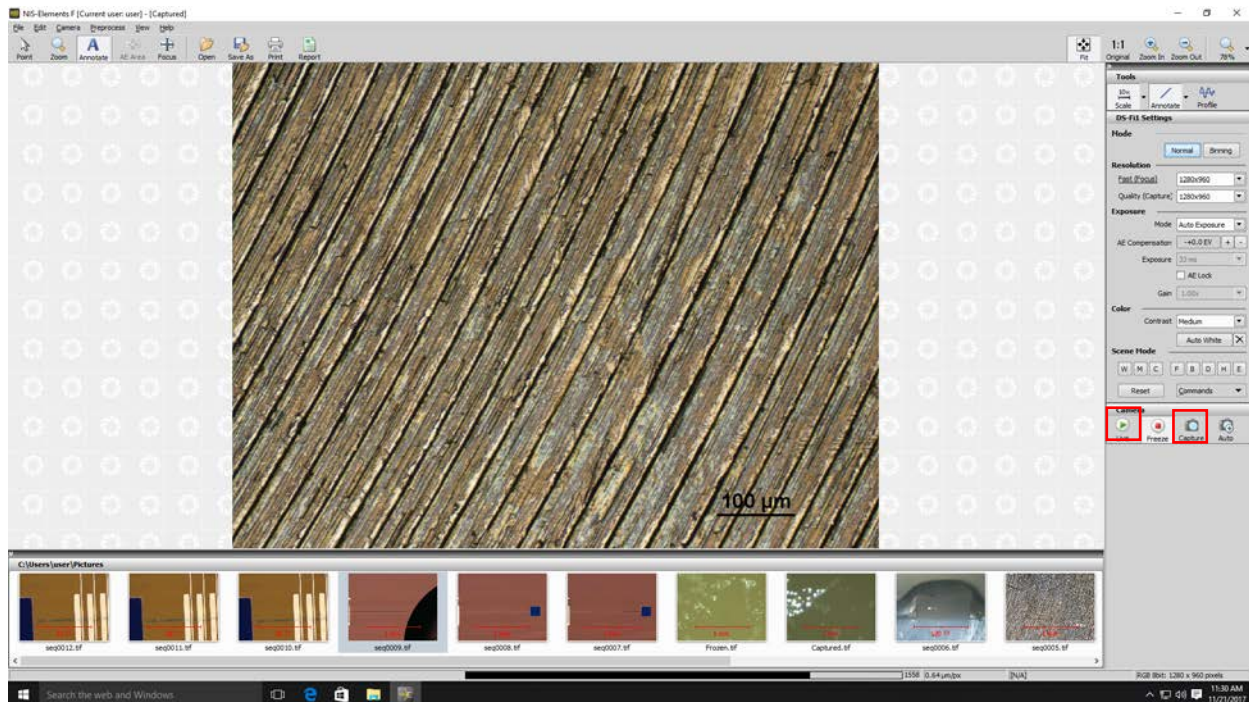

Figure 8. The camera software interface.
- 5) Start camera software 'NIS\_Elements' on desktop. Make sure the 'Live' mode is selected (Figure 8). Adjust the focus slightly to obtain the best image on the screen.
- 6) To add a scale bar on the image, press the button 'Scale' in the up right corner (Figure 8). It's important to **match the magnification on the scale bar with the lens in use.** **Note:** Add the scale bar in live mode. Once captured, the magnification on the scale bar cannot be changed.
- 7) The resolution (in the unit of pixel) and exposure time can be adjusted on the right of the screen. Figure 8 shows the default and suggested settings.
- 8) Press 'Capture' (Figure 8) to capture the image.